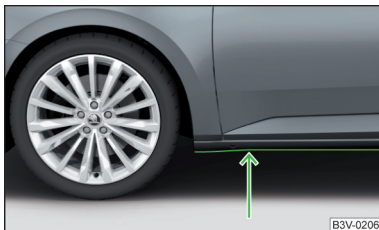

Fig. 265
- Therefore determine the depth of the water before driving through bodies of water. The water level must not reach above the lower edge of the lower brace » Fig. 265.